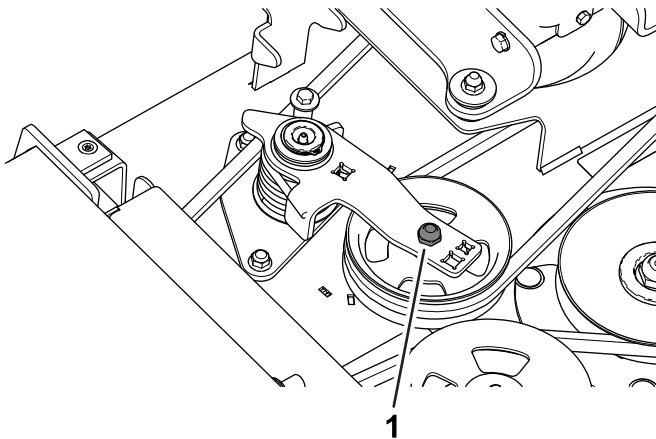

Figure 27
3. Using a torque wrench or similar tool, move the idler pulley (Figure 27) away from the drive belt to release the belt tension and allow the belt to be slipped off the gearbox pulley.